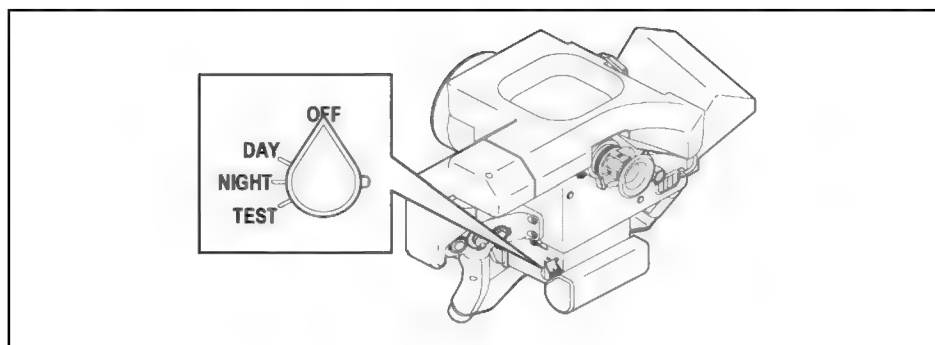

Figure 2-20. Power switch.
e. Turn the Power Switch from the OFF Position to the NIGHT Position (Figure 2-20).